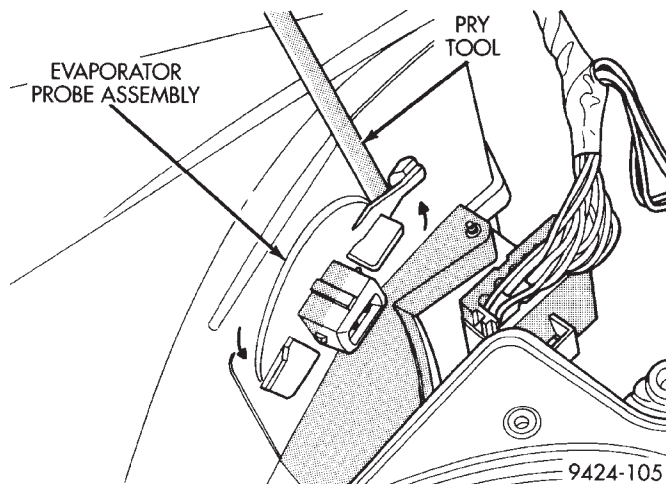

Fig. 67 Evaporator Probe
(12) Remove wiring at evaporator temperature probe.
(13) Using a screwdriver, pry up on tab at evaporator probe (Fig. 67). Twist probe counterclockwise and push tab into the housing.